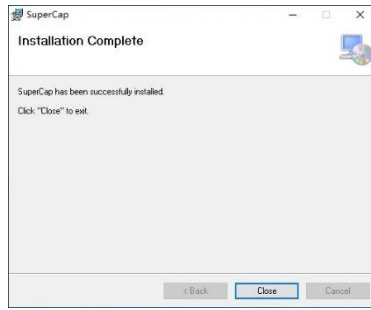

Figure 4-8: Installation Complete
Step 4: The installation completion window appears (**Figure 4-8**). Click **Close** to exit.